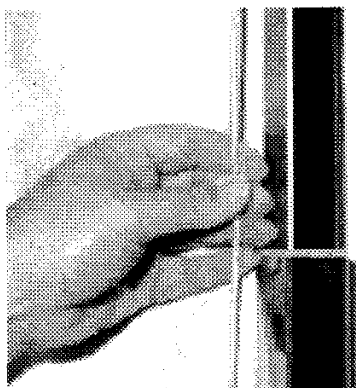

Fig. 3
3. Push toggle switch "up" to initialize power and raise roof. Continue to hold the toggle switch up until the gray limit cable is ALMOST taut. Fig. 3
8. Now, complete raising roof until gray limit cable is snug. **DO NOT OVERTIGHTEN.** Fig 3